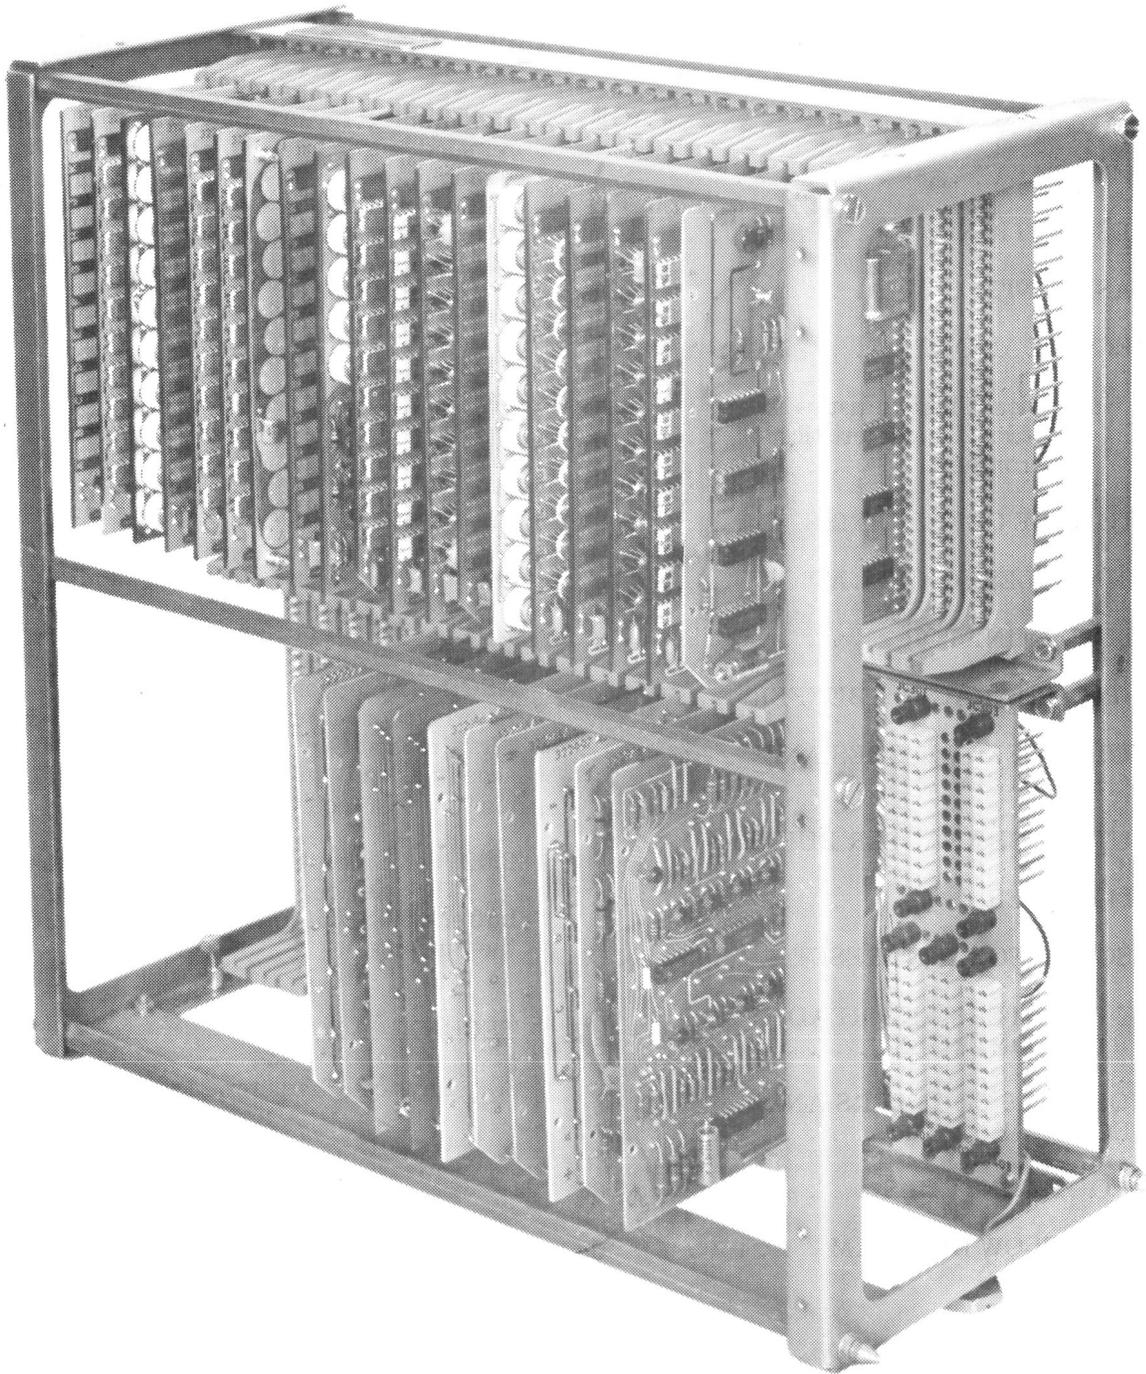
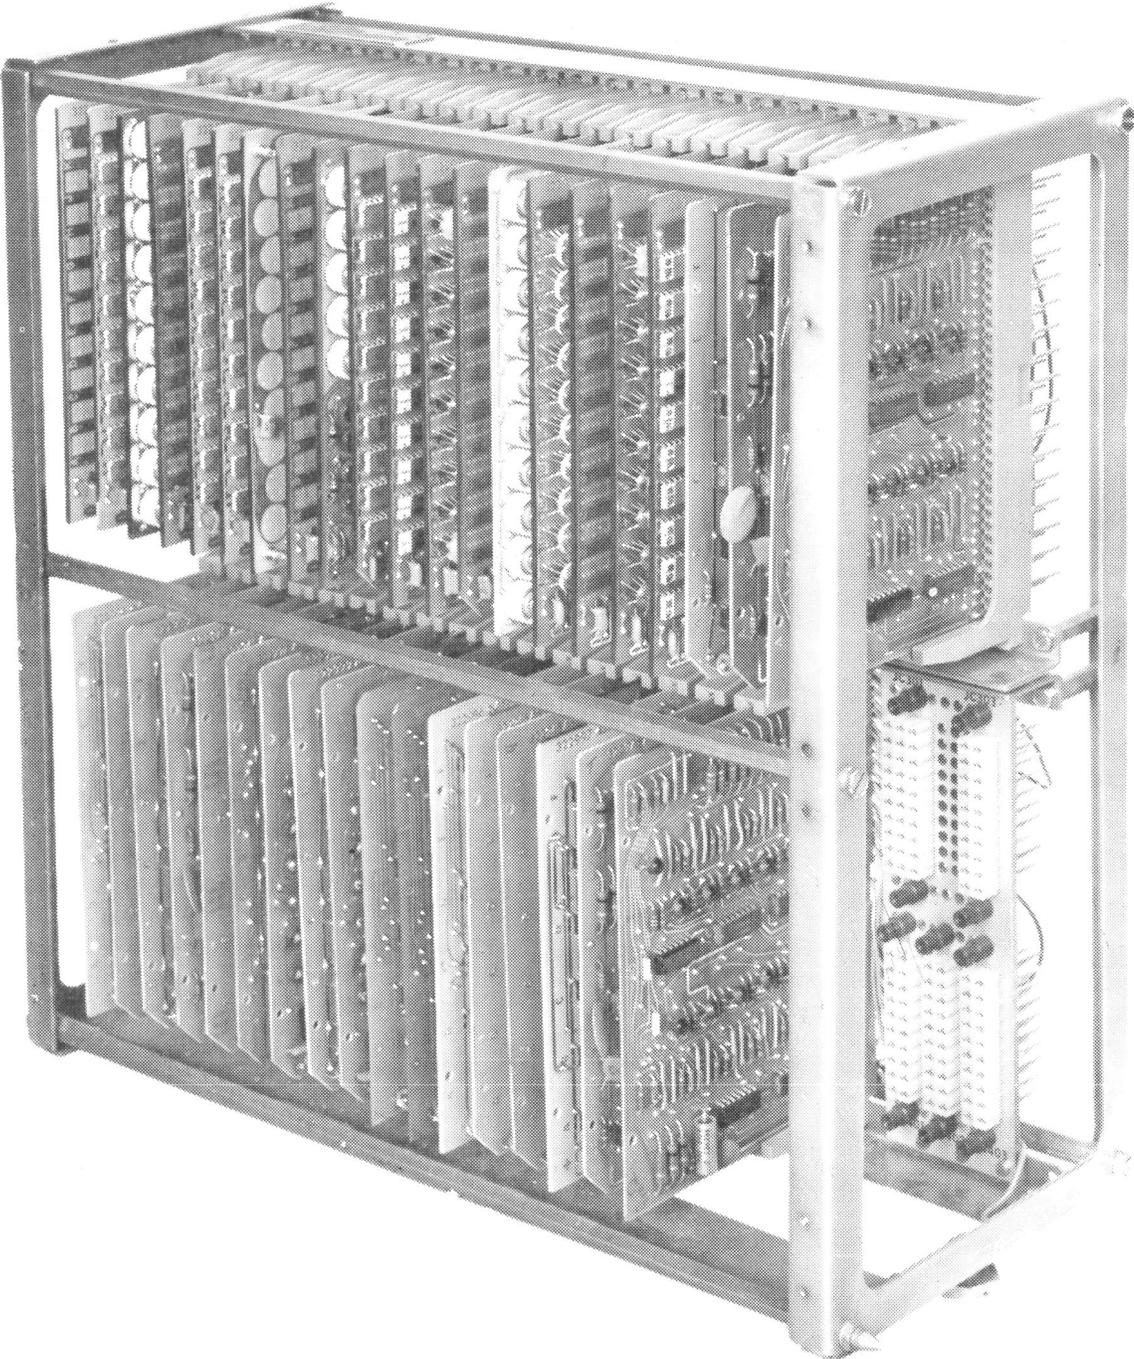

Figure 1 - CDBU801 Buffer Unit
Figure 2 - CDBU802 Buffer Unit
1.01 This section provides the description and principles of operation for the CDBU801 (Figure 1), and CDBU802 (Figure 2) buffer modules, either of which can be used in a